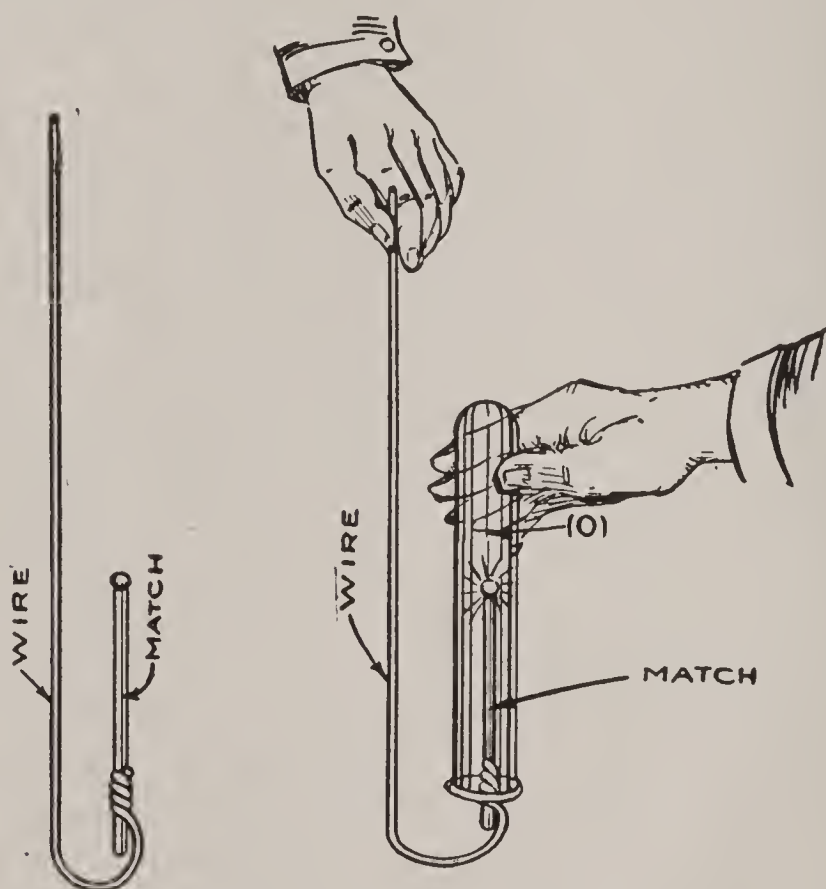

FIG. 43.—
The Self-Lighting Match. Place a large test tube over the delivery tube of your oxygen (O) generator and when it is full of oxygen (O) remove it and hold it with its mouth down. Light a match around which a wire has been twisted, as shown in Fig. 43, and blow it out, leaving only a glowing spark. Now, if you insert the smoldering match by aid of the wire into the tube of oxygen (O), the match will at once ignite again and blaze with more brilliancy than before, as in Fig. 44.
The Self-Extinguishing Match. This is the complementary experiment to the one explained under the caption of “A Self-Lighting Match.” Twist a copper wire around a match, as shown in Fig. 43, lift the jar of nitrogen (N) up